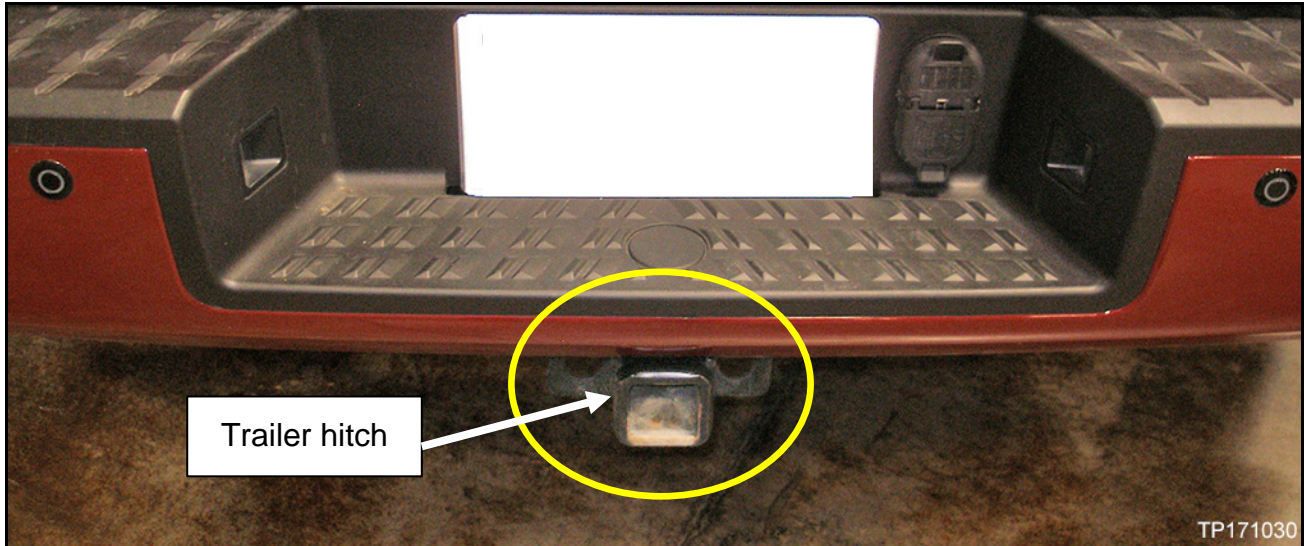

Figure 1
- If trailer hitch is present as shown in Figure 1 then no further action is required.